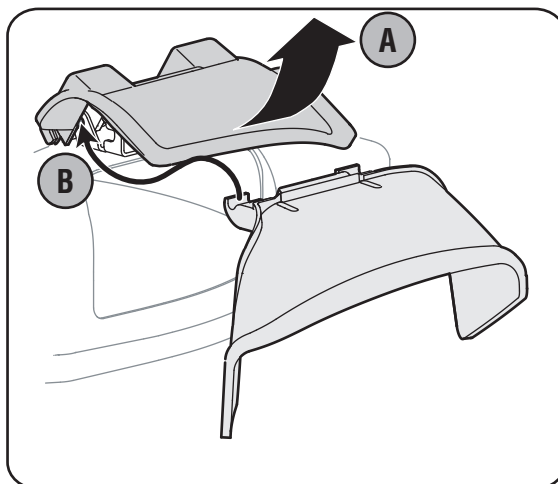

Figure 6
6. Your mower has been shipped as a mulcher. To discharge grass to the side, lift mulching plug. Slide the two hooks on the side discharge deflector under the hinge pin on the mulching plug assembly, see Figure 6. Lower the mulching plug.